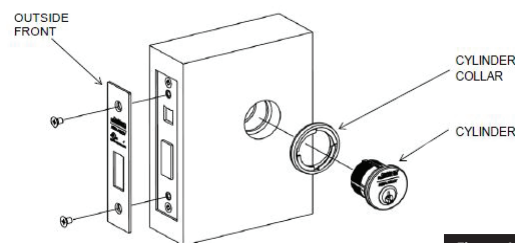

Figure 1
- 4 Place cylinder thru cylinder collar and screw into lock. (See Figure 1)
- 7 Attach outside front using two 1/4" machine screws. (See Figure 1)